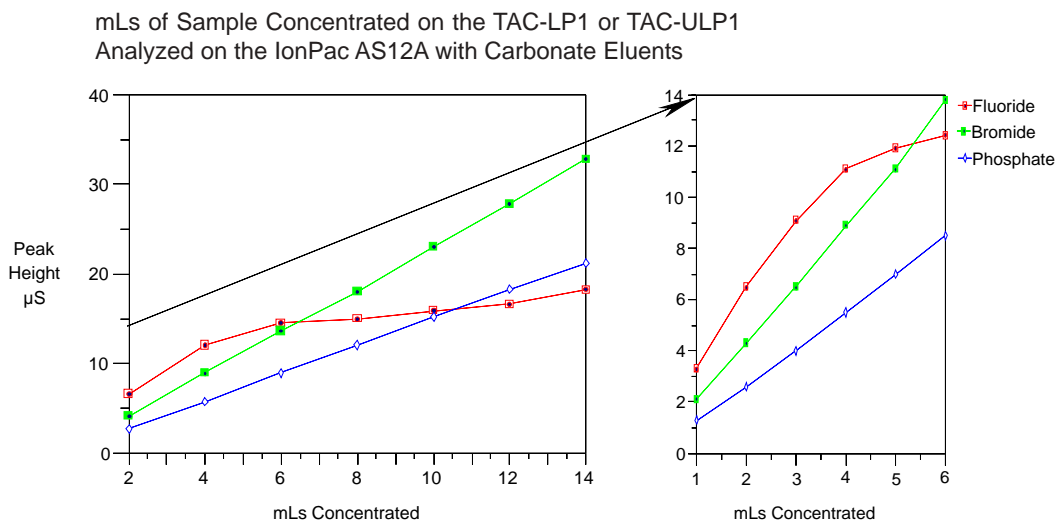

Figure 4
- D. A plot of response versus concentration should be generated as in Figure 4, "Linearity Determinations for Concentrator Injection," for the determination of the maximum amount of sample or standard that can be quantitatively loaded. In Figure 4, "Linearity Determinations for Concentrator Injection," the break in the curve where linearity starts to change is at a concentration volume of 2 mL of 30 µg/L fluoride. For practical purposes the amount concentrated for a series of samples should be 75% of this value. This will ensure that there is a safety margin built into the concentration process in case a sample in a series of concentration experiments has a slightly higher ionic concentration.